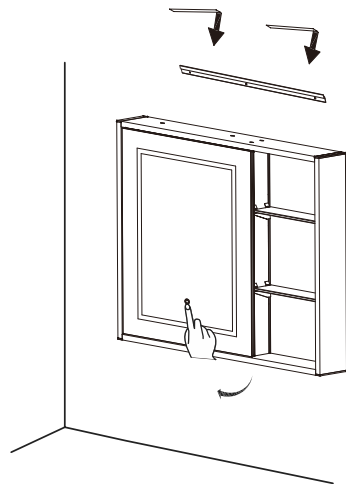

Fig.9
2.6 Finally, switch on the power, and then touch the switch sign (Fig.9) with a finger on the lens to test the products.